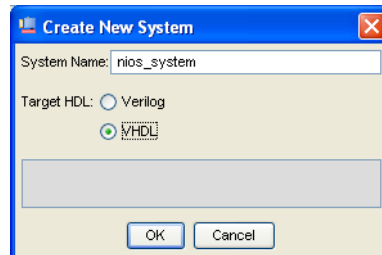
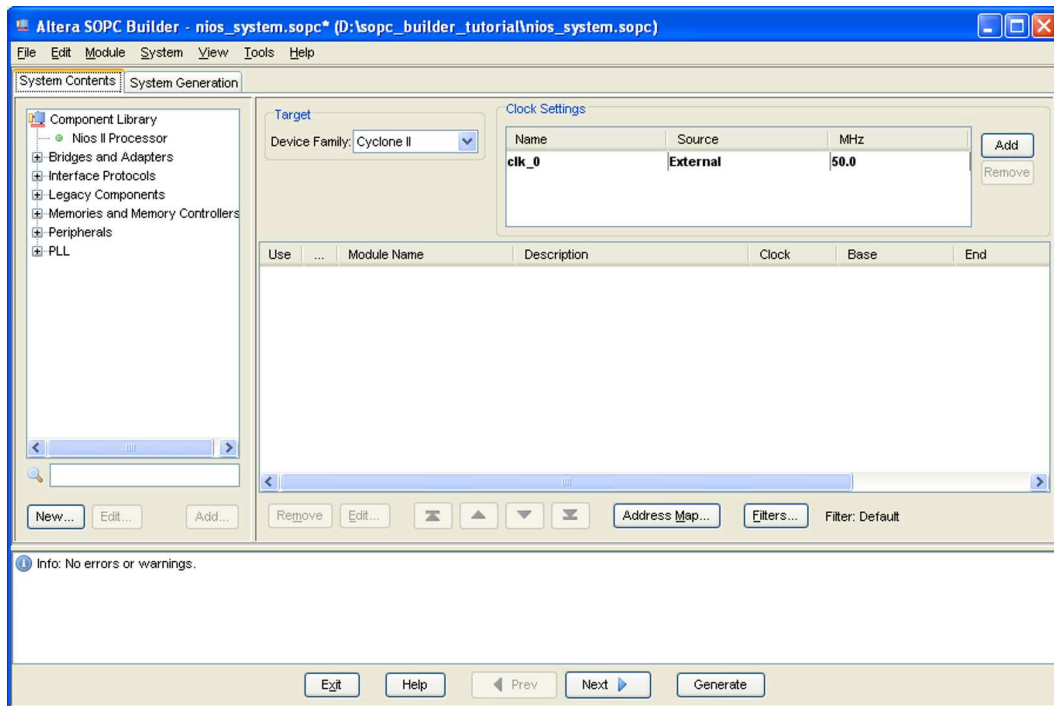
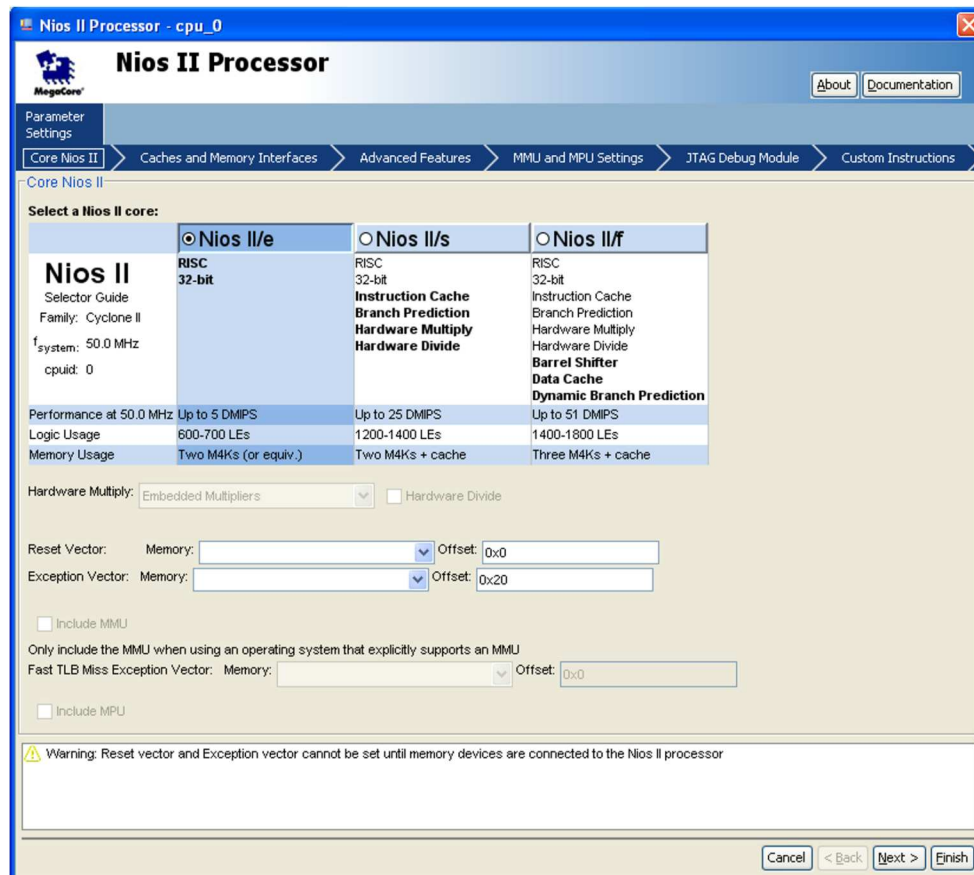
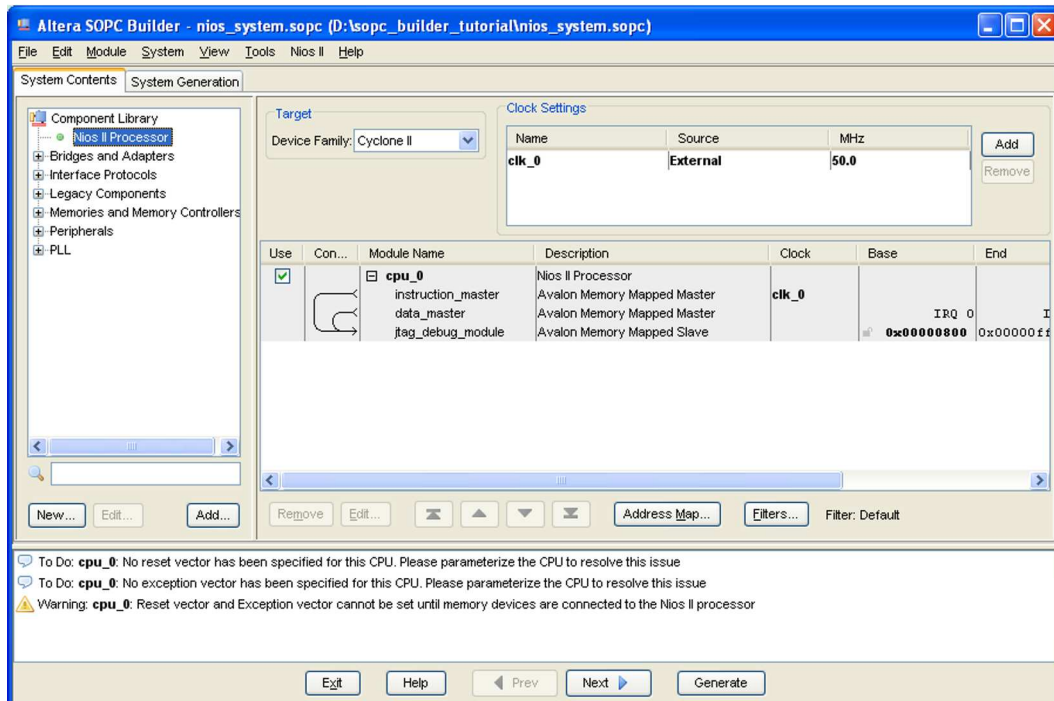

Figure 4. Create a new Nios II system.
Figure 5. The System Contents tab window.
Figure 6. Create a Nios II processor.
Figure 7. The defined processor.
2. Select **Tools > SOPC Builder**, which leads to the pop-up box in Figure 4. Enter *nios_system* as the system name; this will be the name of the system that the SOPC Builder will generate. Choose VHDL as the target HDL, in which the system module will be specified. Click **OK** to reach the window in Figure 5.
3. Figure 5 displays the System Contents tab of the SOPC Builder, which is used to add components to the system and configure the selected components to meet the design requirements. The available components are listed on the left side of the window. Before choosing our components, examine the area in the figure labeled **Target**. Check the setting for the **Device Family** and ensure that **Cyclone II** is selected.
4. The Nios II processor runs under the control of a clock. For this tutorial we will make use of the 50-MHz clock that is provided on the DE2-70 board. As shown in Figure 5, it is possible to specify the names and frequency of clock signals in the SOPC Builder display. If not already included in this list, specify a clock named *clk_0* with the source designated as **External** and the frequency set to 50.0 MHz.
- On the left side of the window in Figure 5 select Nios II Processor and click Add, which leads to the window in Figure 6.
- Choose Nios II/e which is the simplest version of the processor. Click **Finish** to return to the window in Figure 5, which now shows the Nios II processor specified as indicated in Figure 7. There may be some warnings or error messages displayed in the SOPC Builder Messages window (at the bottom of the screen), because some parameters have not yet been specified. Ignore these messages as we will provide the necessary data later.